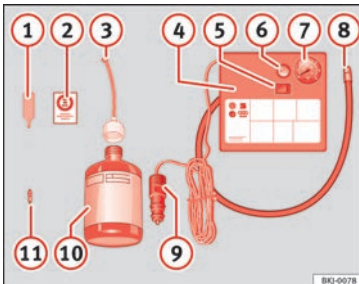

Fig. 73 Standard representation: contents of the anti-puncture kit.
- Unscrew the tyre valve cap and insert. Use the » **Fig. 73 ①** tool to remove the insert. Place it on a clean surface.
- Shake the tyre sealant bottle vigorously » **Fig. 73 ⑩**.
- Screw the inflator tube » **Fig. 73 ③** into the sealant bottle. The bottle's seal will break automatically.
- Remove the lid from the filling tube » **Fig. 73 ③** and screw the open end of the tube into the tyre valve.
- Place the insert back into the tyre valve using the tool » **Fig. 73 ①**.
- Screw the compressor tyre inflator tube » **Fig. 73 ⑧** into the tyre valve.
- Check that the air bleed screw is closed » **Fig. 73 ⑥**.
- Insert the connector » **Fig. 73 ⑨** into the vehicle's 12-volt socket » **page 154**.
- Turn the air compressor on with the ON/OFF switch » **Fig. 73 ⑤**.